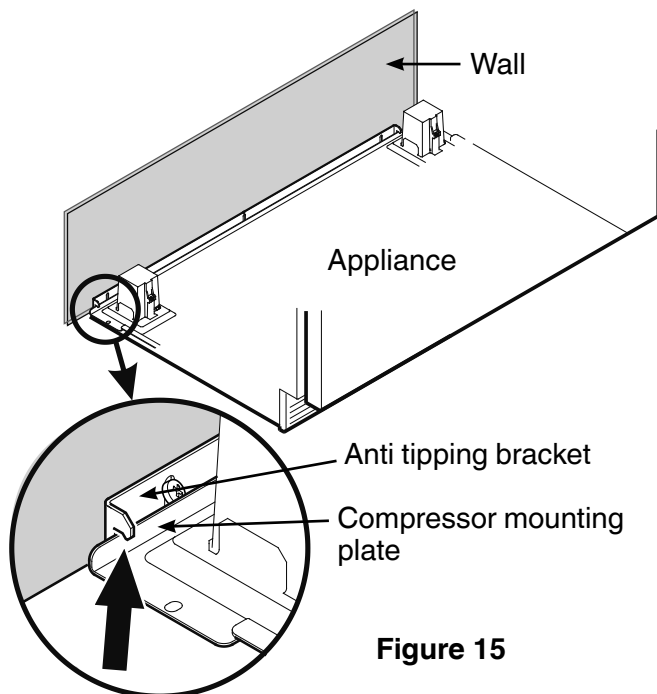

Figure 15
4. Push the appliance slowly to the back wall until the compressor mounting plate makes contact with the anti-tipping bracket (Figure 15).
**To prevent the appliance from tipping forward the compressor mounting plate must have contact with the anti tipping bracket (Figure 15).**